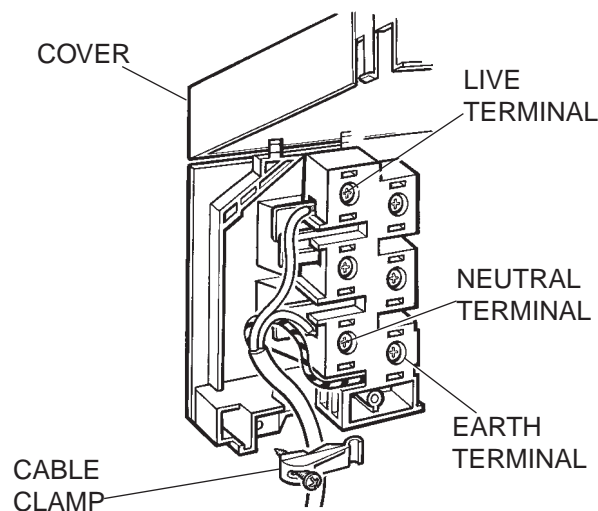

Figure 4 – Electrical connections
1. Lift up the cover (Figure 4).
2. Loosen the cable clamp (Figure 4).
3. Connect the mains supply cable to the terminal block on the cooker using the following colour code (Figure 4):